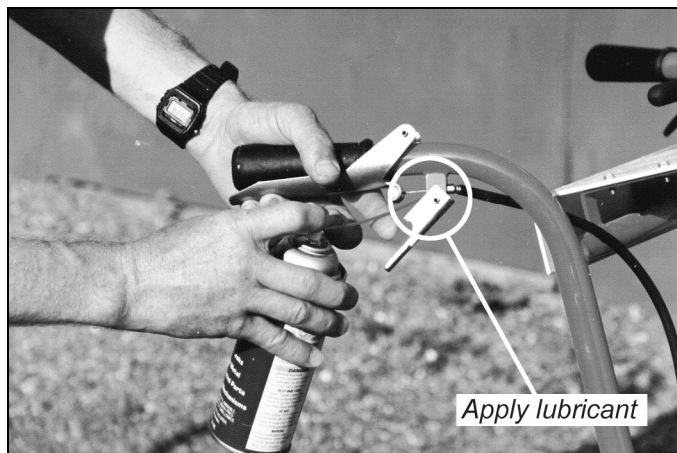

Figure 15
2. Lubricate the brake lever and cable at the operator's end, the throttle lever and cable at both ends, and the key switch, with FLUID FILM® or similar lubricant (*Figure 15*).